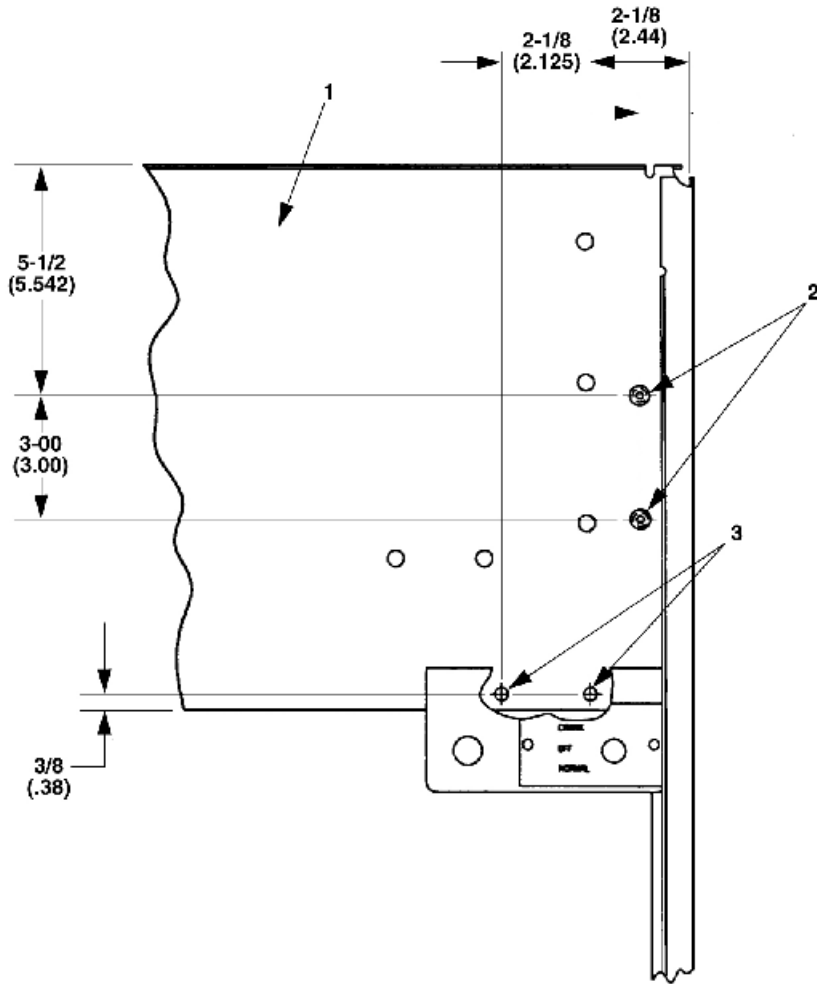
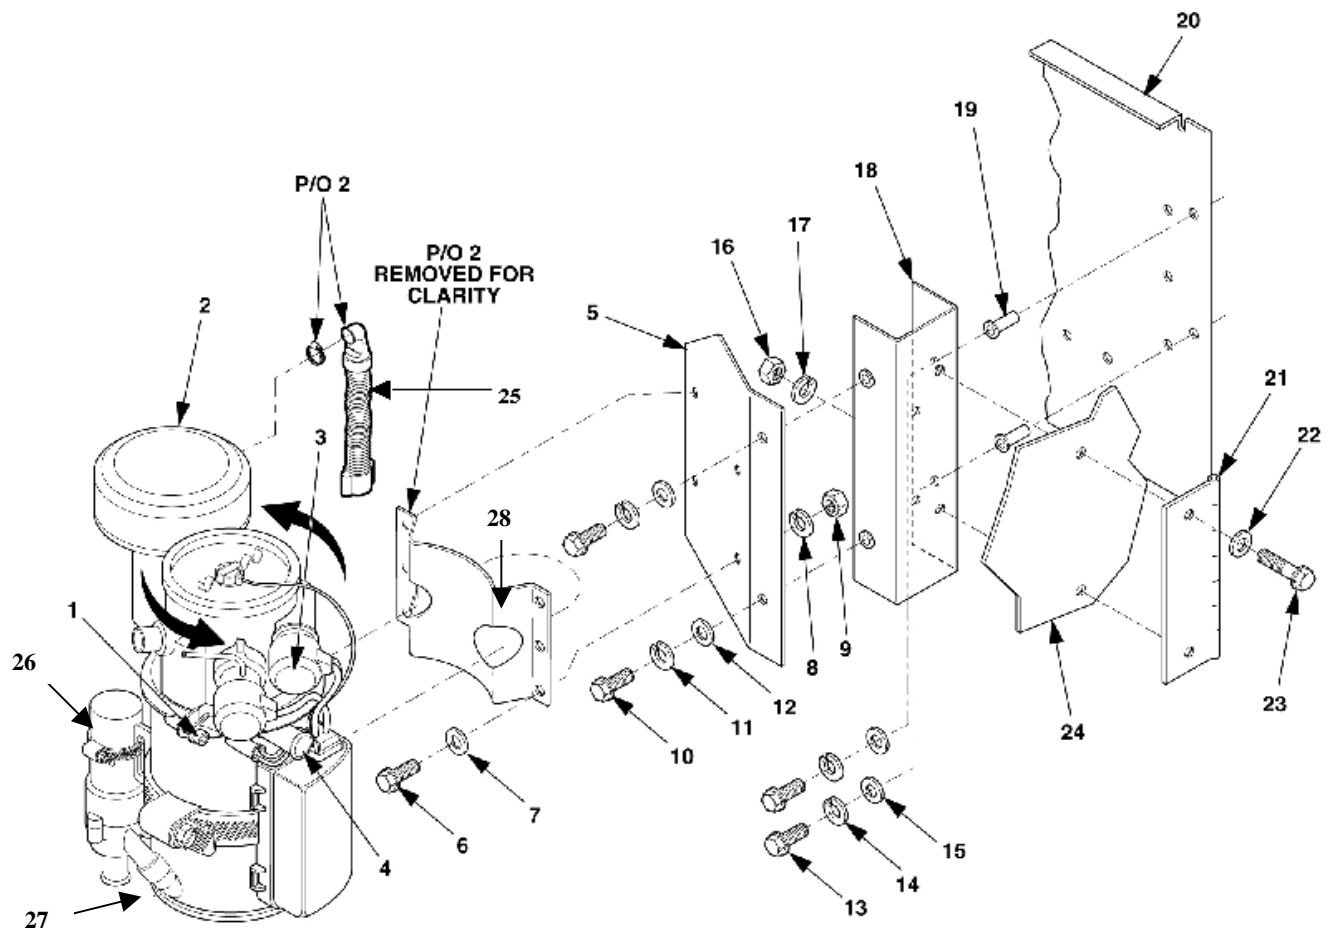

Figure 5-3. Bulkhead Housing.
Figure 5-4. Heater Assembly.
11. Remove dead crank switch bracket (4), Figure 5-3, from center bulkhead housing. Retain hardware for reinstallation in accordance with TM 9-6115-641-24. Retain hardware for reinstallation.
12. Drill four 9/32 inch diameter holes (2 and 3) in center bulkhead housing (1).
13. Install dead crank switch bracket (4, removed in procedure 11) in holes (3) with screws, flat washers, and lock washers.
14. Loosen the heater head retaining screw (1), Figure 5-4, part of (2), and rotate the glow plug assembly (3), until the right glow plug is above the coolant outlet (4), and tighten.
15. Loosen the heater holding clamp bracket (28), part of (2), and rotate the "black" heater shell bracket approximately 1 ½ inch space from the heater water pump. Do not retighten the clamp.
16. Install the heater (2), on the heater mounting plate, (5), using screws (6), flat washers (7), lock washers (8), and nuts (9).
17. Attach the heater air inlet flexible hose (25) to the heater water pump (26) using existing cable tie provided with heater, (2). Ensure the inlet hose (27) does not interfere with the heater mounting bracket.
18. Remove the hinges (21) and associated hardware from the generator set.
19. Install blind rivet nuts (19) in holes on bulkhead housing (20). See holes (2) in Figure 5-3.
21. Install the wall mounting plate bracket (18), Figure 5-4, on the inside of the center bulkhead housing using screws (13), flat washers (14), and lock washers (15) into rivet nuts (19).
23. Install the top hinge (21), on the outside of the center bulkhead housing (24), using screws (23), flat washers (22), lock washers (17), and nuts (16), removed in procedure 18.
24. Install the heater/mounting plate assembly (5) to the wall mounting bracket (18), using screws (10), flat washers (11), and lock washers (12).